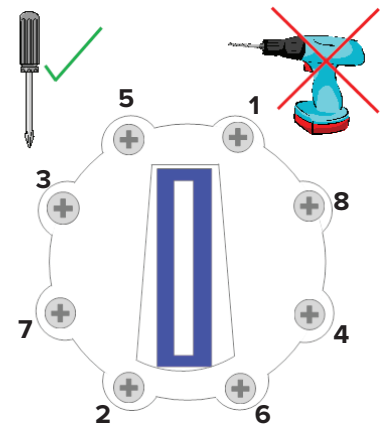

Fig 2.6
8. Using a hand Phillips-head screwdriver, slowly tighten the screws in a diagonal pattern, per the diagonal sequence shown in Fig.2.6. Do not fully tighten one screw before proceeding to the next, i.e., pull them down slowly multiple times to avoid stressing and cracking the lid. Screws should be tightened to a final torque of 25 in./lbs. or 2.8 Nm. **Disclaimer: Under no circumstances should the screws in the FlowVis lid assembly or sensor be tightened with an electric screwdriver in the ‘drill’ setting. This can result in a cracked lid or sensor and will void the product warranty.**